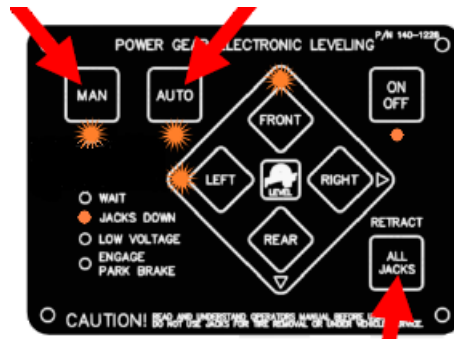

Figure 3 Sensor Override Mode: Pressing Auto, Manual And All Jacks Retract
4. To enter into **Sensor Override Mode** (see warning to the left) press the following 3 buttons at the same time: **MAN/AUTO/ALL JACKS RETRACT**. See **Figure 3**. You will hear 3 beeps and then release the buttons. **Then attempt step 2 above again.**